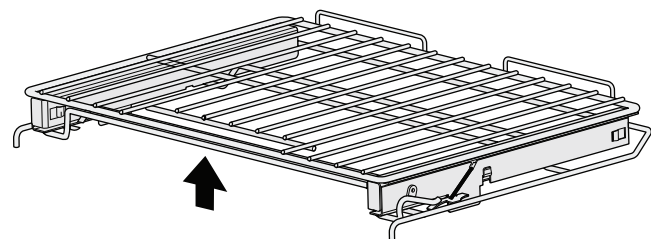

Figure 21: Extendable Glide Rack with release lever in unlocked position
2. While holding up the release lever (Figure 21), pull the Glide Rack out of the oven until the stop position is reached, use two hands if necessary.